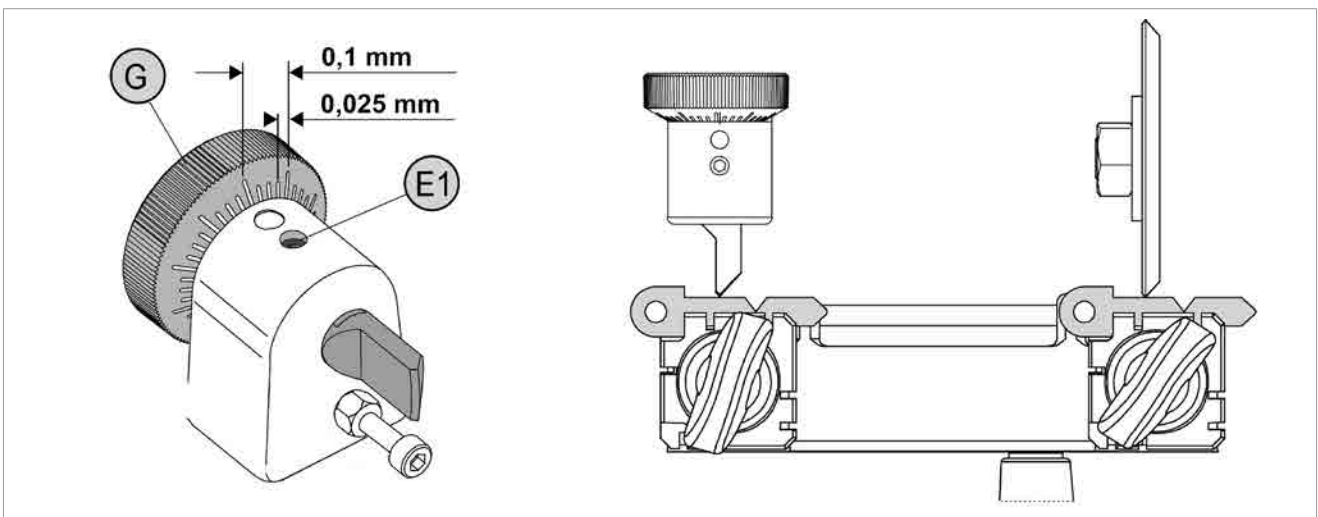

Fig.15
- 7) Take the keys into contact with the cutting tool and tracer point (Fig.15).
**NOTE:** each notch on the centesimal ring corresponds to 0,025 mm (Fig.15).